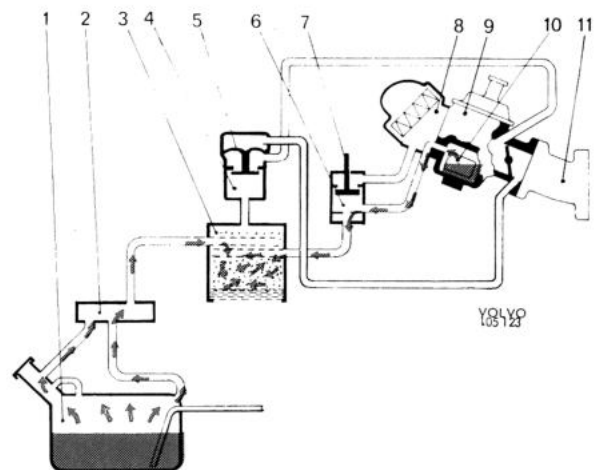
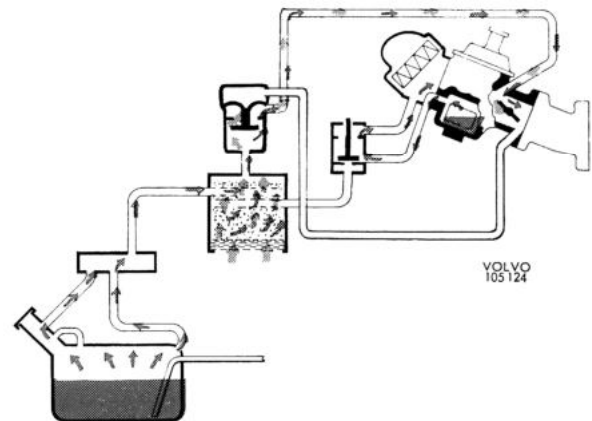

Fig. 2-60. Evaporative control system with control rod (7) at idle
Fig. 2-61. Evaporative control system with control rod at running
Vehicles for the USA market are fitted with an evaporative control system which prevents fuel fumes from being released out into the atmosphere. Its function is outlined in Fig. 2-60.
Fuel fumes from the floatchamber (10, Fig. 2-60) are led via the valve (6) to the venting filter when the engine has been switched on or during idling. Throttling shuts off the connection between the venting filter and the float chamber so that the fumes travel via the valve to the air cleaner (Fig. 2-61).
throttle facing the induction manifold, see Fig. 2-60. The vacuum in the induction manifold depends on the engine load and speed.
At high vacuum, the vacuum valve is kept closed (Fig. 2-60). When the vacuum drops the valve opens and air is drawn through the venting filter and vacuum valve to the carburettor venturi. Fuel fumes stored in
the venting filter follow the air into the engine and take part in the combustion (Fig. 2-61).